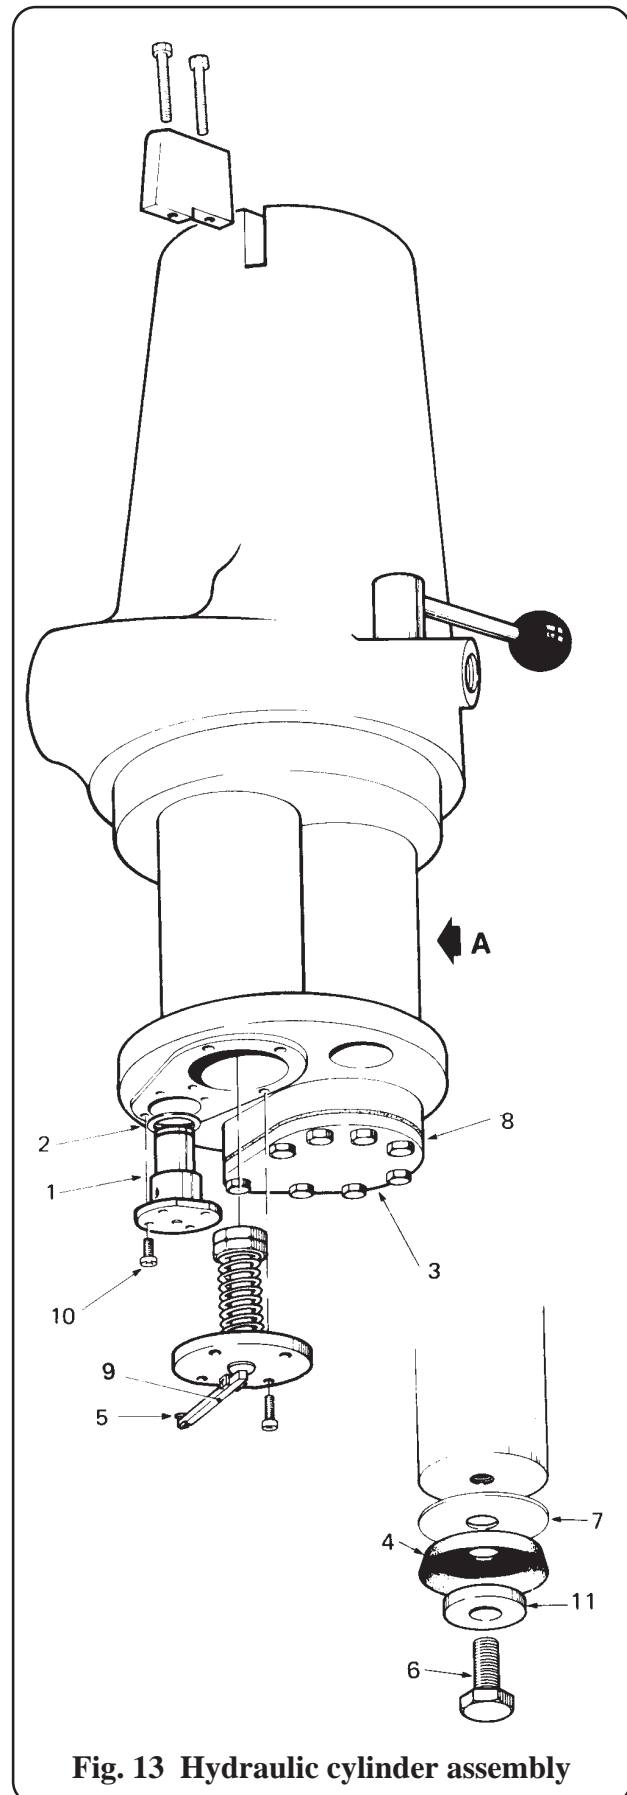

Fig. 13 Hydraulic cylinder assembly
travelling through its full stroke, the fault is probably due to the presence of dirt in the ball valve, (1, Fig. 13) of the hydraulic cylinder. It is often possible to clear this obstruction by vigorously operating the height control pedal. If this fails, remove hydraulic cylinder from base (see section 4.35); the ball valve should then be disassembled and cleaned (see section 4.37). If the pedal is suddenly inoperable either when raising or lowering the table, refer to section 4.28.
- i Condition of ball valve jointing washer (2, Fig. 13). If faulty, replace it (see section 4.37).
- ii Secureness of ram cover plate (3, Fig. 13). If it is loose, retighten it.
- iii Efficiency of ball valve (1, Fig. 13). If blocked or jammed, disassemble and clean it, (see section 4.37). If the seating of the larger (spring-loaded) ball has been damaged, replace the complete valve.
- iv Condition of ram cup washer (4, Fig. 13). If worn or chipped, replace it (see section 4.36).
- i Refer to Fig. 13 and remove cover plate (3) taking care not to damage the sealing gasket; the ram cup washer will then be exposed.
- ii Remove washer retaining screw (6), washer (11), ram cup washer (4) and backing disc (7).
- iii Refit the backing disc (7) together with a new cup washer (4) smearing the latter with a little of the oil used for the table hydraulics.
- i Refer to Fig. 13 and remove ram release lever pivot (9) - Sellok pin or screwed pin and lock nut - then remove ram release lever.
- ii Unscrew the four ball valve retaining screws (10) and insert two of these screws into tapped holes in valve flange.
- v Reassemble and refit ball valve, preferably using a new jointing washer (2).